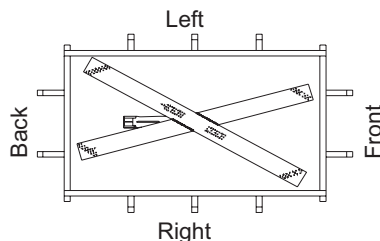

Figure 44 - Burner and Grate (Top View)
5. Figure 44 shows top view of burner and grate.